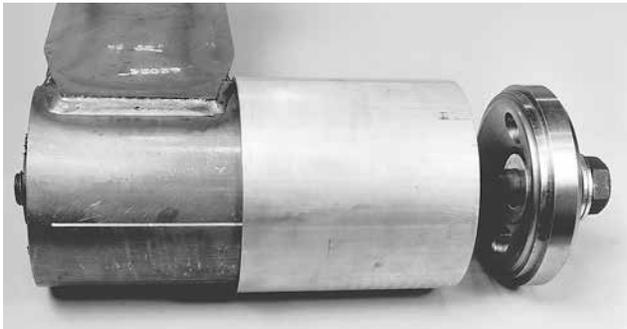

Figure 19: Mounting tool on bushing tube
- 7. **Insert** the hex head bolt of the tool through the bushing until the transition tube rests squarely on the bushing tube (Figure 19).